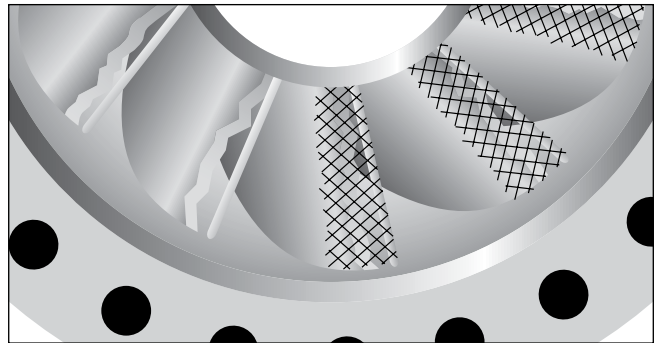

Figure 3. Expanded metal, used over damaged blades, rebuilds and reinforces the repair area
- 4. Top Coat:** Top coat the entire volute area with Loctite® Nordbak® Brushable Ceramic epoxy to increase pump efficiency. (See Figure 3)
- 2. Severe Erosion:** For severely eroded blades, tack weld expanded metal from the edge to be rebuilt to the existing metal surface. (See Figure 3)